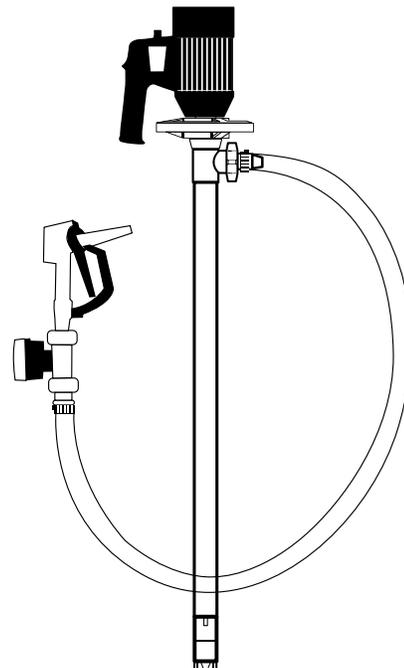

Figure 14
1. Once pump and flow meter ( see Figure 14) are fully assembled and all connections are securely fastened, insert the pump into the drum of liquid.